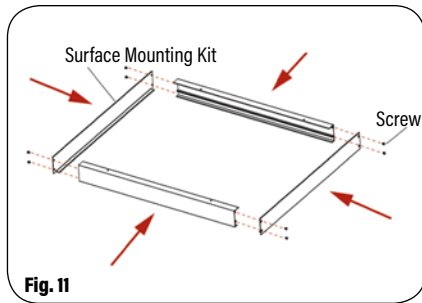

Fig. 11
2. Connect the surface mount kit by using the supplied screws. (Fig. 11)